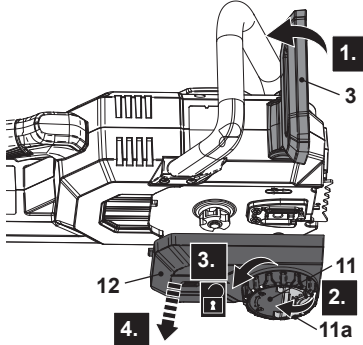

Fig. 1
2. Pull the front safeguard (chain brake lever) (3) fully backward to disengage the chain brake (Fig. 1, step 1).
3. Flip the locking ring (11a) up and hold it, unscrew the locking wheel (11) anticlockwise and then remove it together with the chain saw cover (12) (Fig. 1, steps 2, 3, 4).